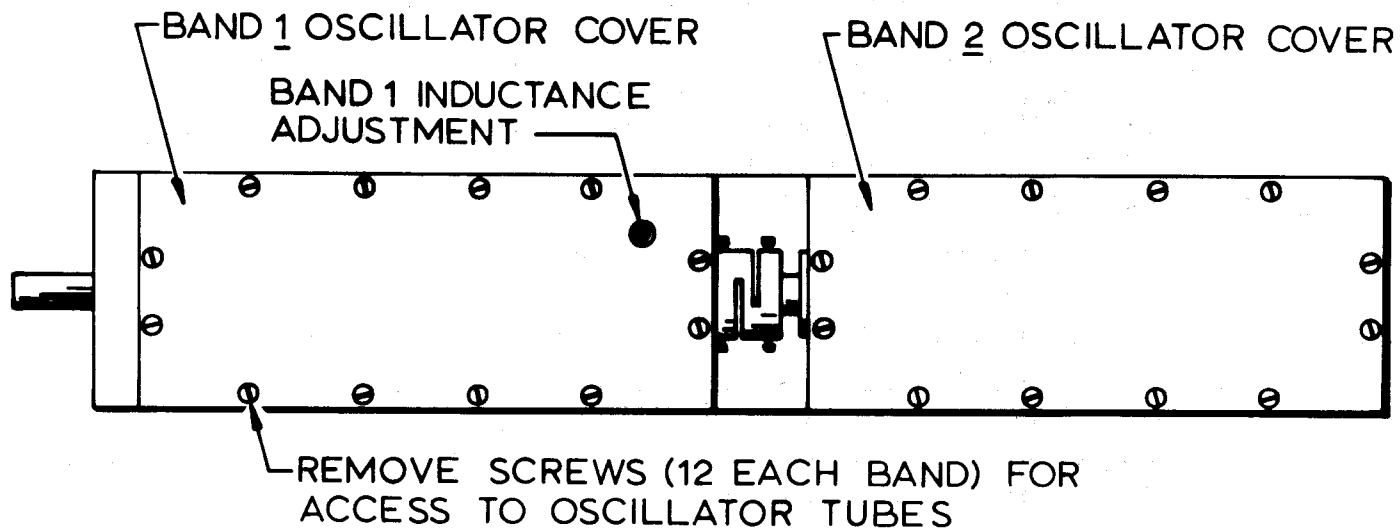

FIG. 2
- () 3. Remove the oscillator assembly covers. See Fig. 2.